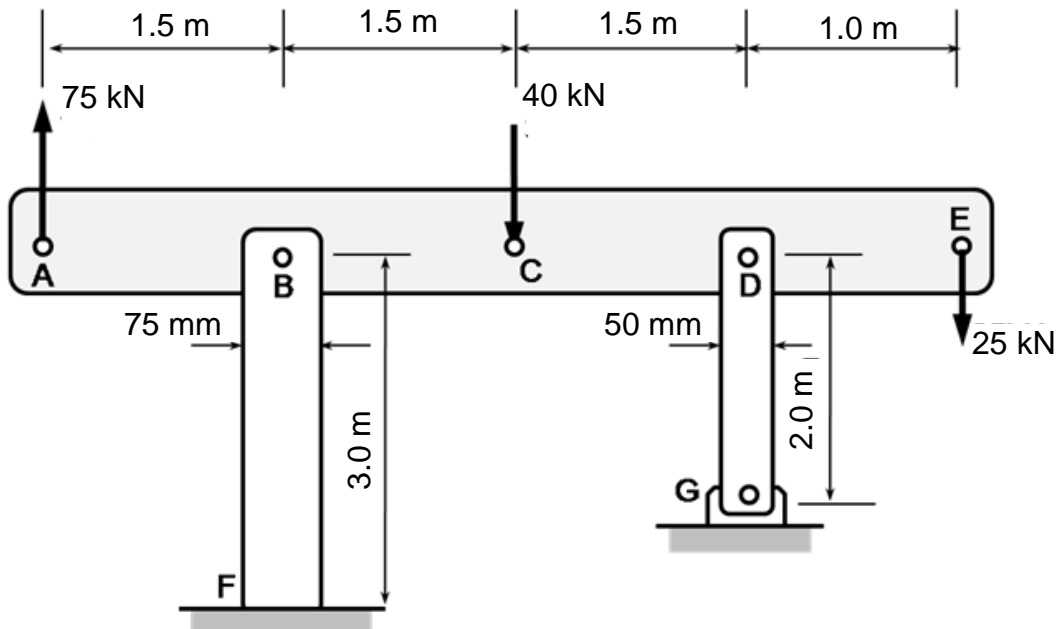
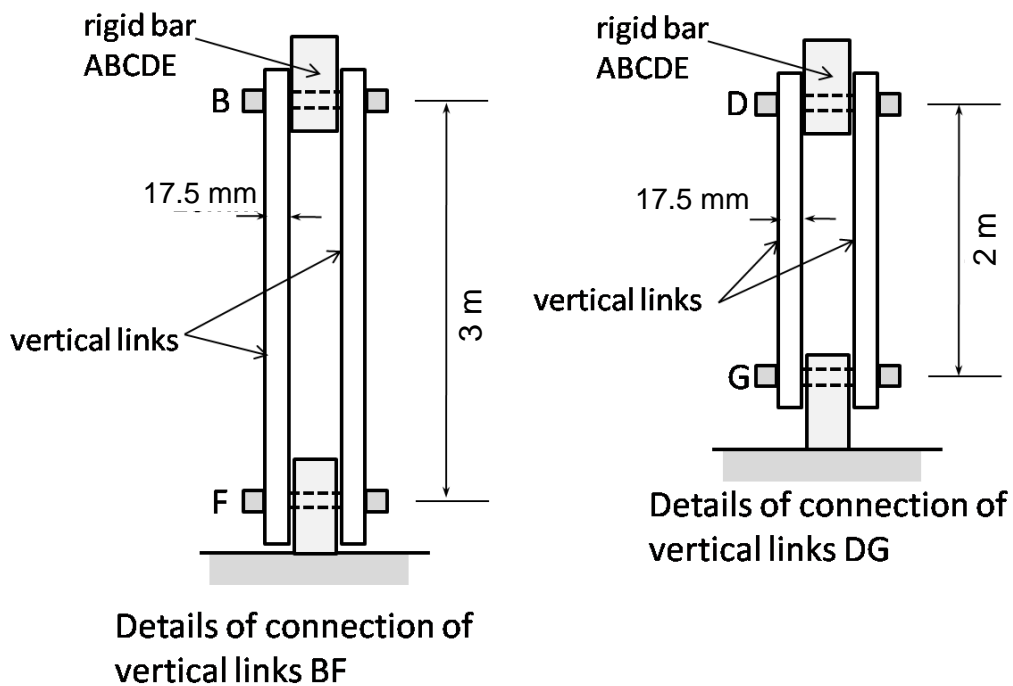

Figure 2
Figure 3
2. A rectangular rigid bar ABCDE is supported by two pairs of vertical links at B and D as shown in **Figure 2**. Loads of 75 kN, 40 kN and 25 kN act at point A, C and E, respectively. Each of the vertical link joining B and F has rectangular cross-section of 75 mm \times 17.5 mm whilst that joining D and G has rectangular cross-section of 50 mm \times 17.5 mm. Elastic modulus for links BF and DG are 110 GPa and 80 GPa, respectively. Details of connection of vertical links BF and DG are given in **Figure 3**.